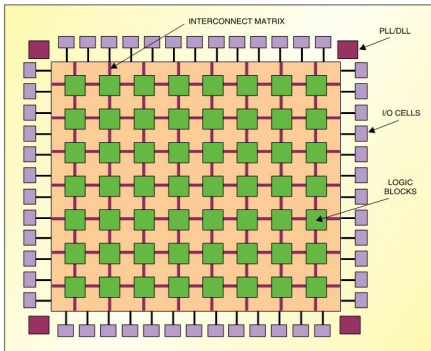

Fig. 1: FPGA architecture (generic)
Fig. 1 shows the architecture of an FPGA. It includes logic blocks, input/output (I/O) cells, phase-locked loops/delay-locked loops (PLLs/DLLs), block RAM and interconnecting matrix. Nowadays, FPGAs are also coming up with several hard intellectual property (IP) blocks of PCIe, Ethernet, Rocket I/O, PHYs for DDR3 interfaces and processor cores (for example, PowerPC in Xilinx Virtex-5 FPGA and ARM cores in both Xilinx and Altera series FPGAs).